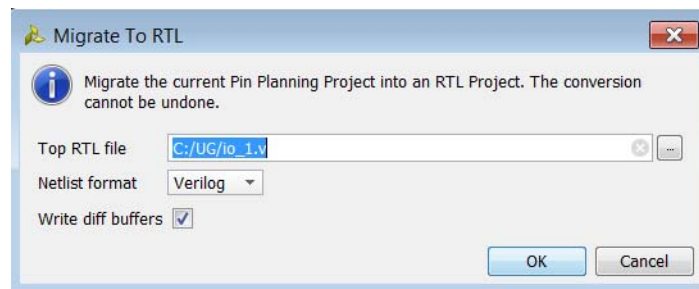

Figure 3-31: Migrate to RTL Dialog Box
2. In the Migrate to RTL dialog box (Figure 3-31), set the following options, and click **OK**.